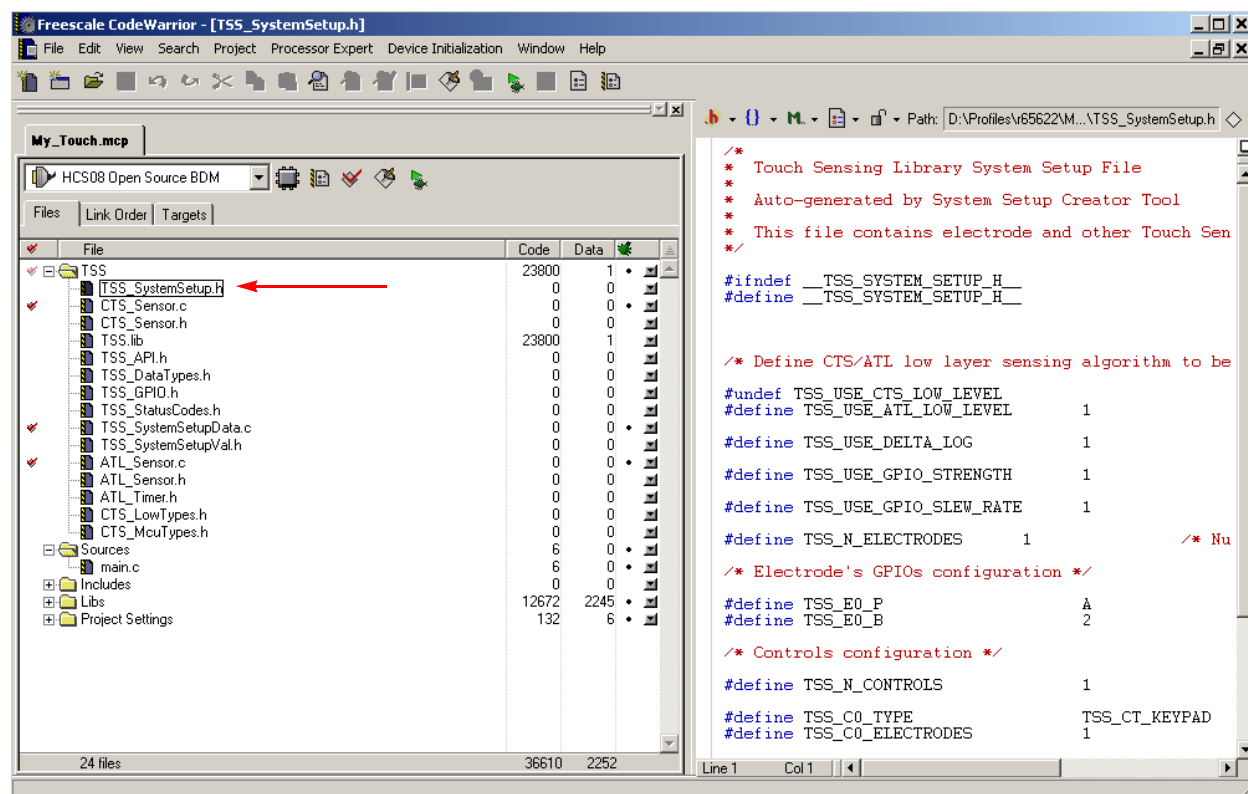

Figure 14. Freescale CodeWarrior—TSS_SystemSetup.h
7. After this is finished, the TSS_SystemSetup.h appears in the project window. Double-click to view its contents in the right panel as shown in Figure 14.